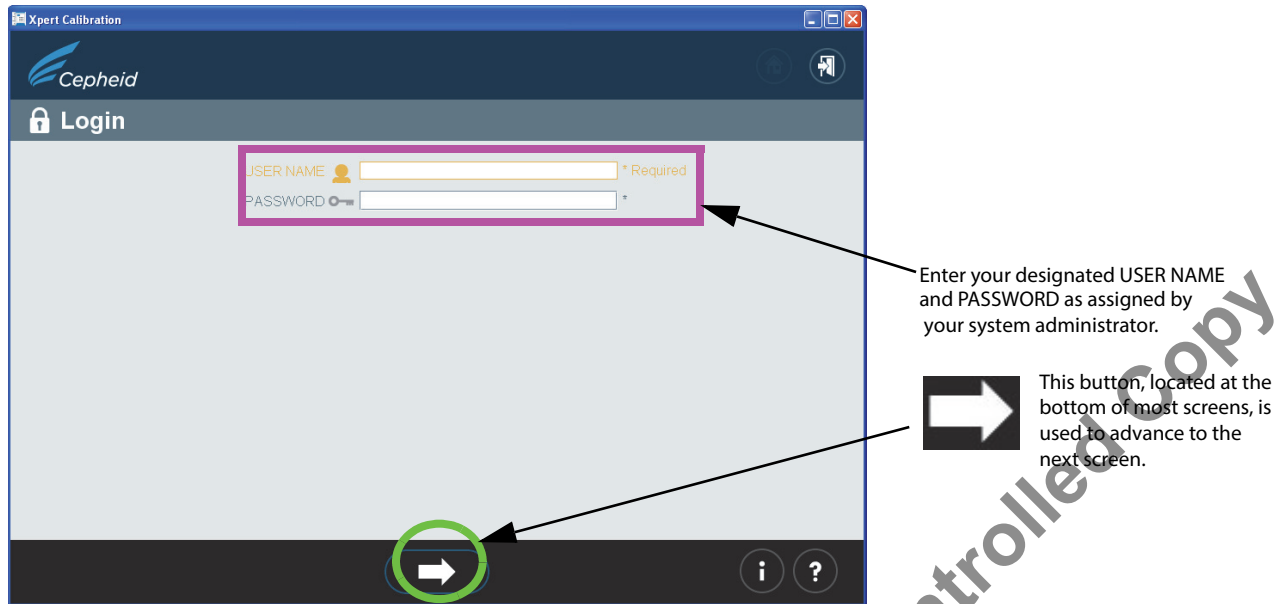

Figure 2. Xpert Calibration Login Screen
4. After agreeing to the Terms of Service, the Login screen will appear. Log in with your GeneXpert Dx or Infinity designated USER NAME and PASSWORD (previously assigned to you by your system administrator). After entering your login information, click the forward arrow button at the bottom of the screen to advance to the next screen (the Xpert Home screen). See Figure 2.